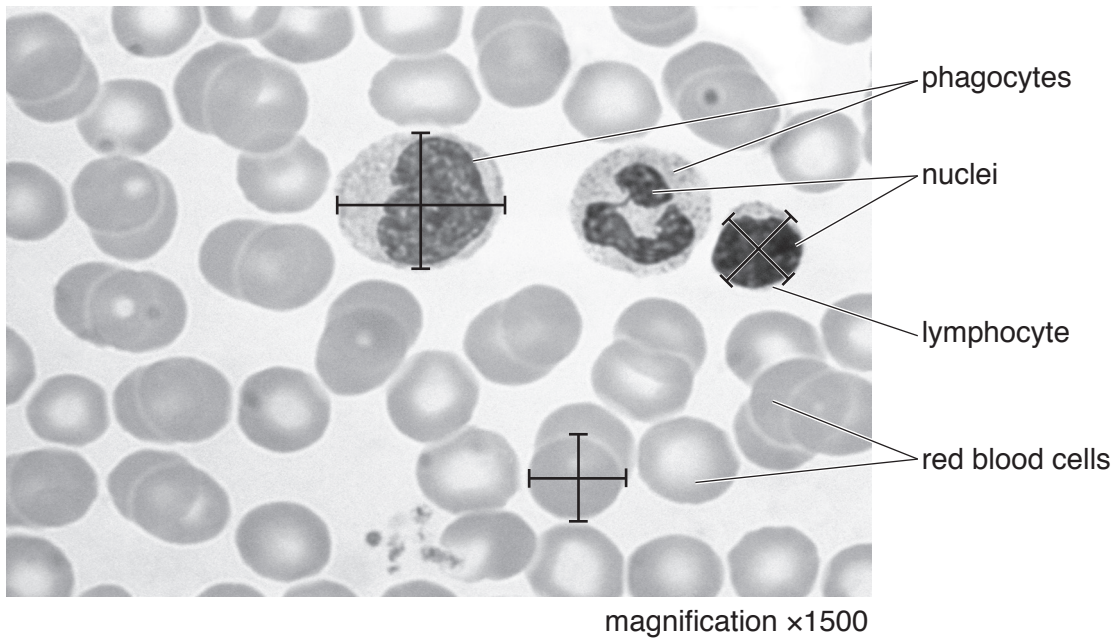

Fig. 2.1
2 Fig. 2.1 is a photomicrograph of some blood cells.
(a) (i) State **two** visible differences between the red blood cells and the white blood cells (phagocytes and lymphocytes) in Fig. 2.1.
(ii) Make a large drawing of the two cells labelled **phagocytes** in Fig. 2.1.
- (b) (i) Measure the diameters of the three marked blood cells, along both the lines drawn on each of the cells, in Fig. 2.1. Record these measurements in Table 2.1.
$$\text{magnification} = \frac{\text{average diameter of the red blood cell in Fig. 2.1}}{\text{actual average diameter of the red blood cell}}$$